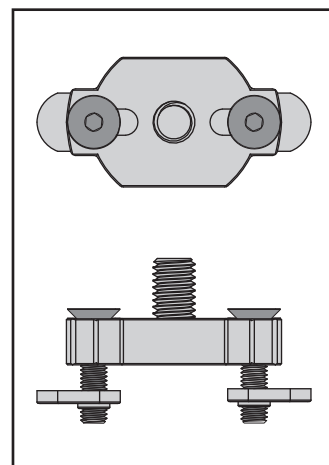

Figure 2.
2. Push the screws (B) outward to connect with the bottom flange (figure 2).